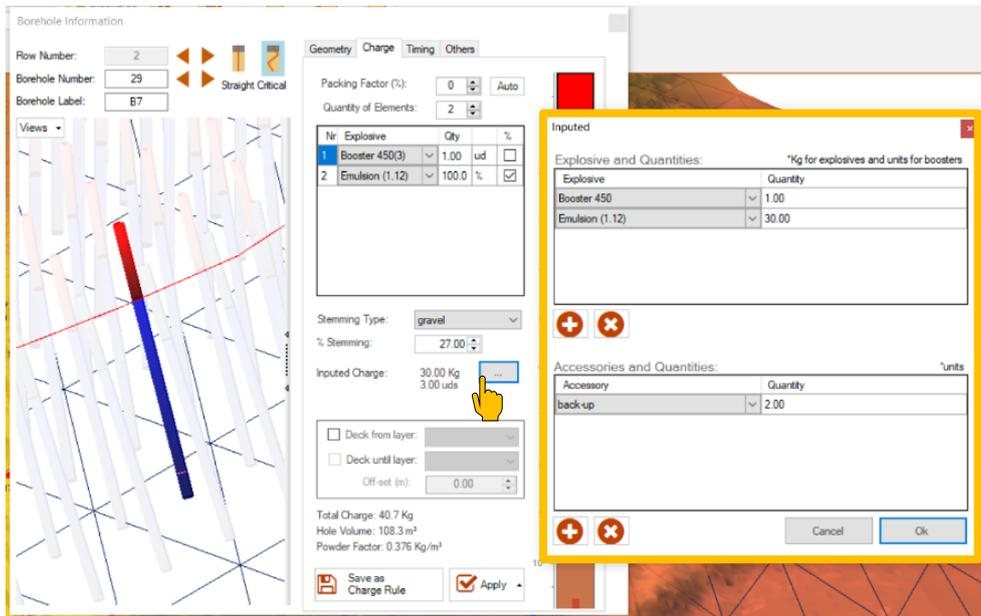

Figure 273 - Inputted charge with the information updated.
P.S: In the case of some holes having their charges modified on the field, when updating holes through the server (O-PitCloud), the new information related to their charges will appear within the inputted charge field (Figure 273).